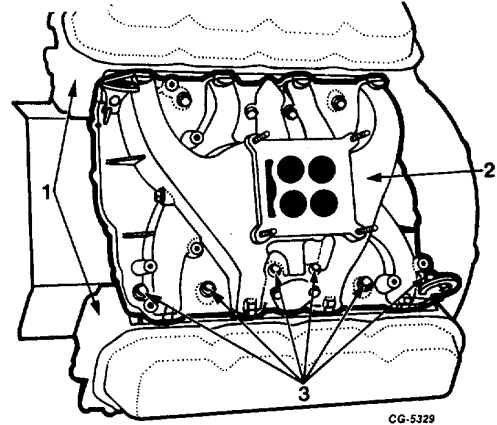

Fig. 36 Intake Manifold Removal
36. Remove twelve mounting bolts and flat washers securing intake manifold to cylinder heads, Figure 36. Remove intake manifold.